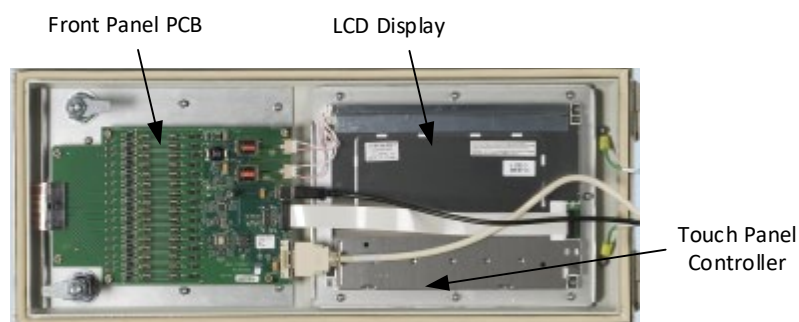

Fig. 8.4. Back of Door
8.2.1 Back of door (see Figure 8.4)